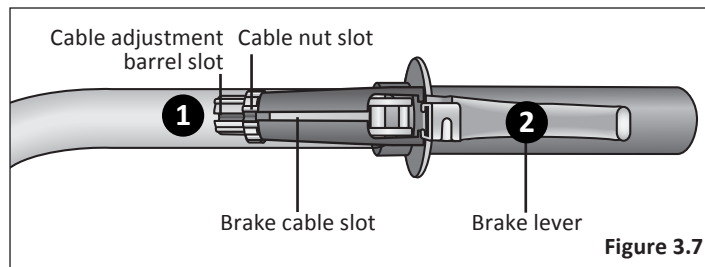

Figure 3.7
- 1** Rotate the cable adjustment barrel and cable nut until the slots are aligned with the slot on the brake lever body. **Figure 3.7**